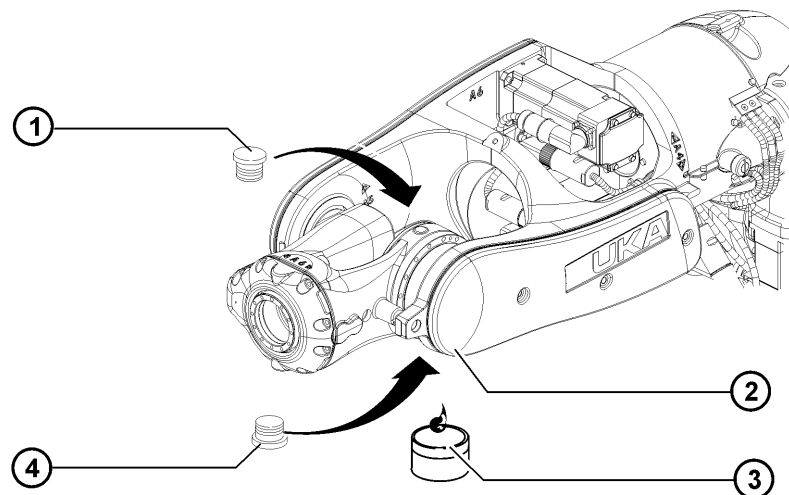

Fig. 9-7: Oil change on wrist axis A5
1. Remove the lower magnetic screw plug (>>> Fig. 9-7).
5. Pour the specified amount of oil into the filler holes of the rear magnetic screw plug (>>> Fig. 9-7).